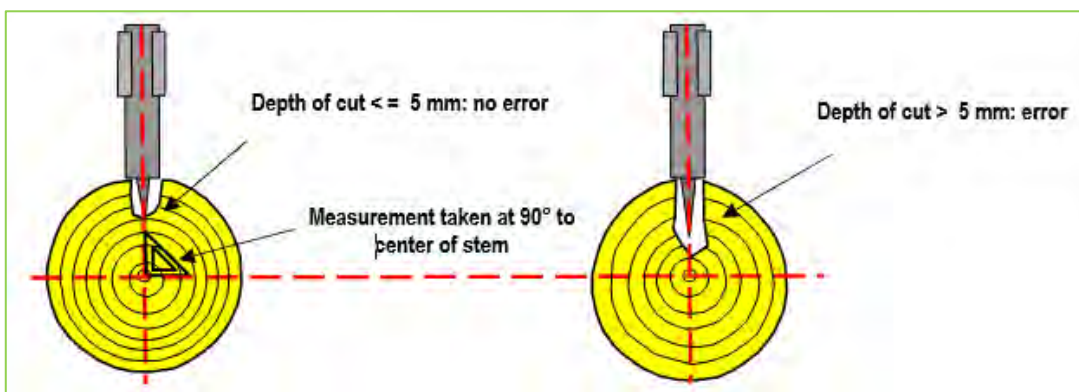
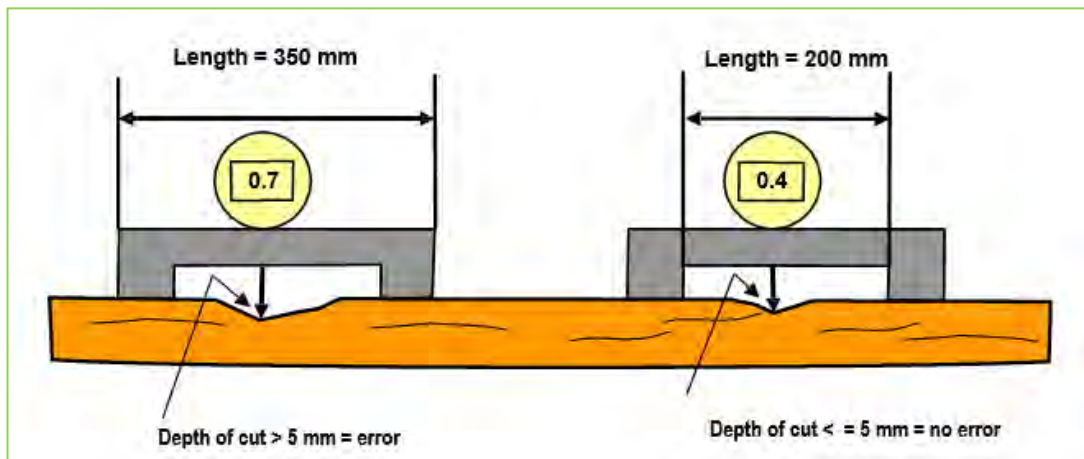

Figure 41: Measuring the cuts that are too deep, at 90° to the center of the stem
Figure 42: Damage to stem and length of measuring equipment
**Damage to the stem:** Any damage to the stem (deeper than 5 mm) is measured and recorded. There are 20 penalty points for each point of damage to the stem. Measurements are taken at right angles to the center of the stem and across the entire cutting surface (see figure 41 and figure 42).